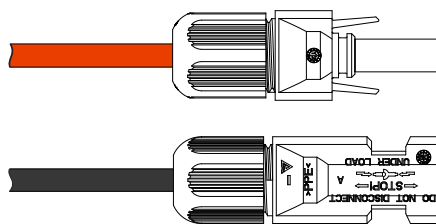

Figure 3-35 Tighten the sealing nuts
- Step 4 Tighten the sealing nuts of positive connector and negative connector to the corresponding insulation crusts respectively, as shown in Figure 3-35.